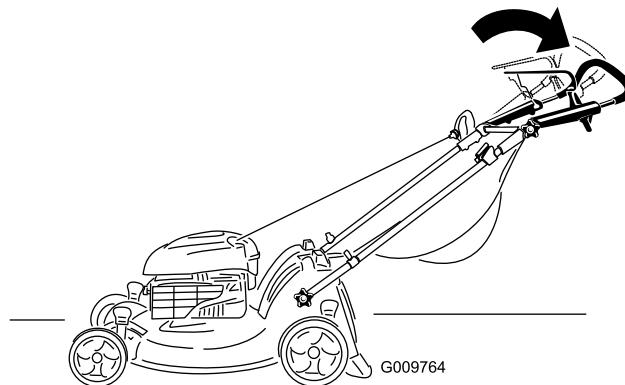

Figure 19
2. Move the upper handle to the desired position (Figure 19).